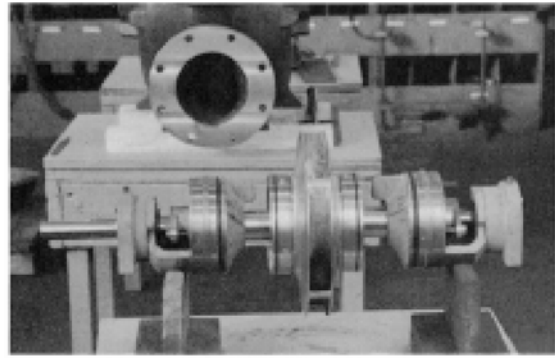

FIGURE 19 – ROTATING ELEMENT (PACKING INSTALLED)
4. Tap the stuffing boxes with a soft-headed hammer to break the seal between the stuffing box and lower casing half, and lift the rotating element out of the lower casing. Rotating element may now be moved to a suitable working location (See Figure 19).